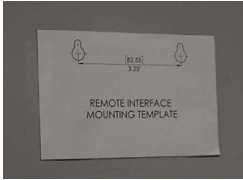

Fig. 2
2. Locate the Mounting Template upon the wall where the Controller will be mounted (Fig. 2). Using the crosses on the template to assist in levelling the template.